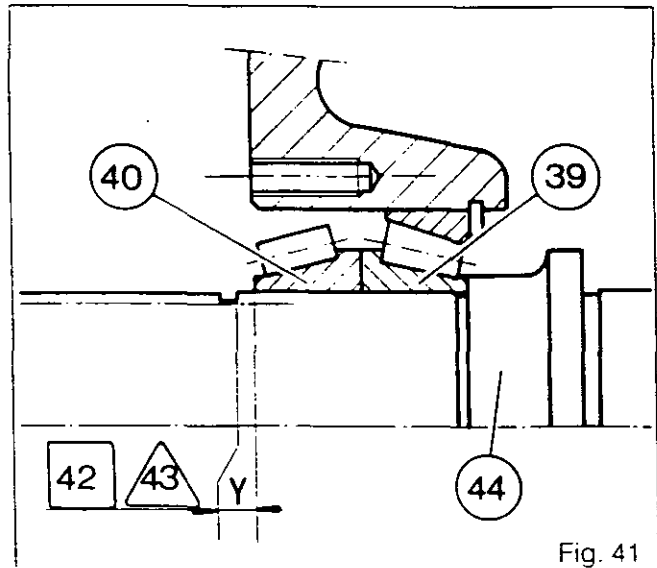

Fig. 41
142. The aim of this procedure is to prepare J3 shimming (Fig.41). Hold the cones (39) and (40) against the step in the shaft (44) using hand pressure.